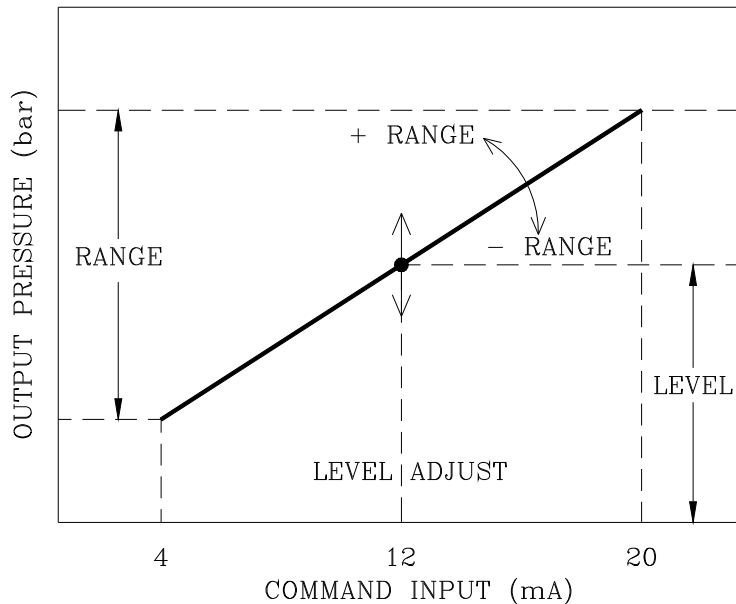

Figure 4-2. Output Pressure vs. Command Input
- Pressure Level** This adjustment sets the level of output pressure. Adjusting the level changes all points of the output pressure uniformly. Adjusting clockwise increases the level. See Figure 4-2.
- Pressure Range** This adjustment sets the slope of the output pressure. Adjusting clockwise increases the amount of slope of the line. See Figure 4-2.